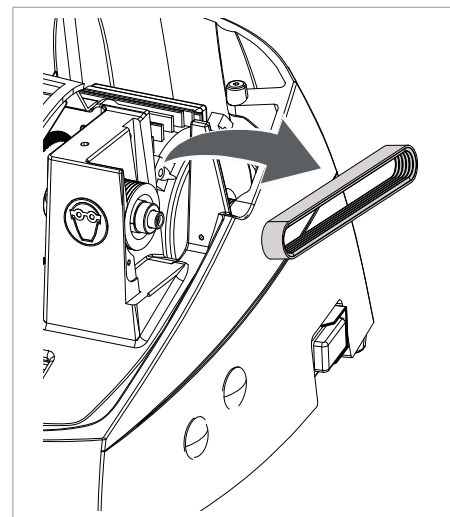

Fig. 54
- 7) Raise the motor and remove the worn belt (Fig. 54).